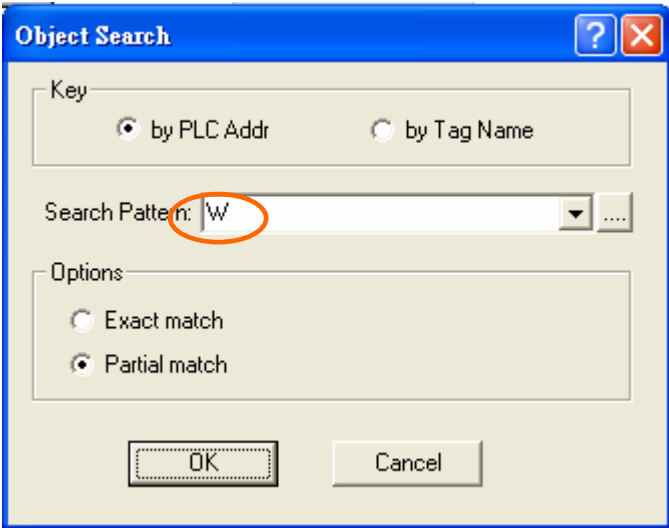
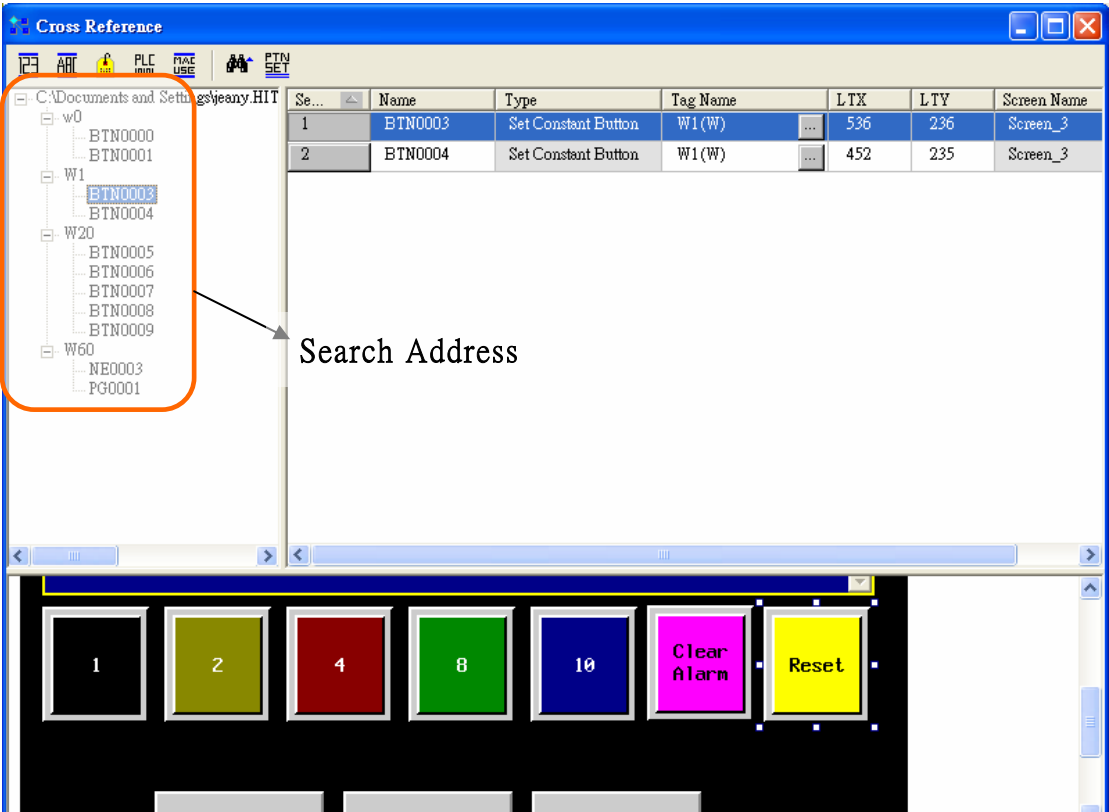

Figure 175. Specify the search pattern
Figure 176. Display the search address
- : Set the desired pattern for search. Select [by PLC Addr] or [by Tag Name], [Exact match] or [Partial match] options to search. See Figure 175. If the search pattern is “W”, and select [Partial match]. The cross reference will display the objects which PLC addresss has “W”- “W0”, “W1”, “W20”, “W60”. See Figure 176.